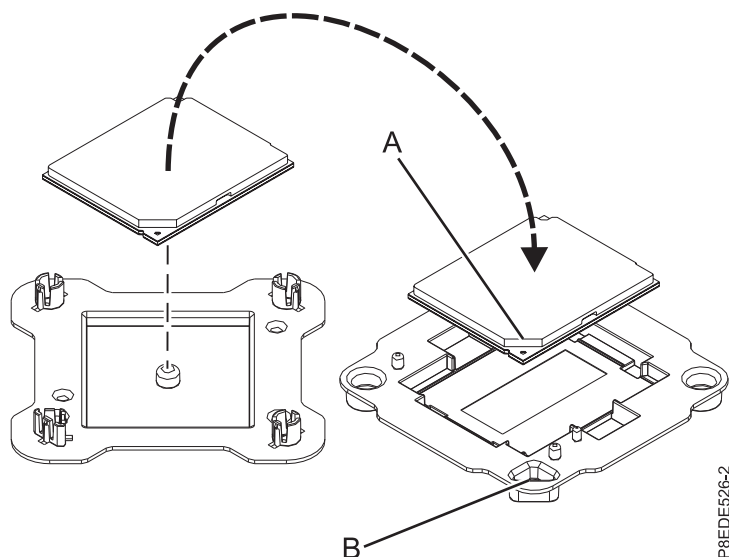

Figure 105. Placing the system processor module into the packaging
11. Lightly grip the system processor module that you replaced by the edges and lift it off of the packaging cover. Align the beveled corner of the module (A) to the corner of the packaging with triangle (B) and place it in the packaging, as shown in Figure 105. Close the packaging cover.